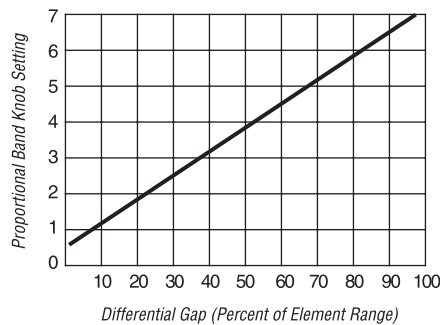

Figure 10 Differential Gap Controller Gap Adjustments
The transmitter output has no effect on the process pressure. It simply makes the sensing element pressure range control the output signal range (i.e.: 3 to 15 psig). The pressure setting knob will set the transmitter to zero. The proportional band adjustment knob sets the span (Figure 10).
2. Set the PROPORTIONAL BAND ADJUSTMENT for the proper differential gap (see Figure 10).
4. Use the following equation and the graph in Figure 10 to determine the proportional band adjustment setting. Assume that the sensing range is 0 to 100 psig and the controller is to switch from zero to full output pressure at the process pressure of 80 psig with rising process pressure from full supply pressure to zero at 20 psig with falling pressure (direct acting).
From Figure 10, the proportional band adjustment should be set at approximately 4.5.